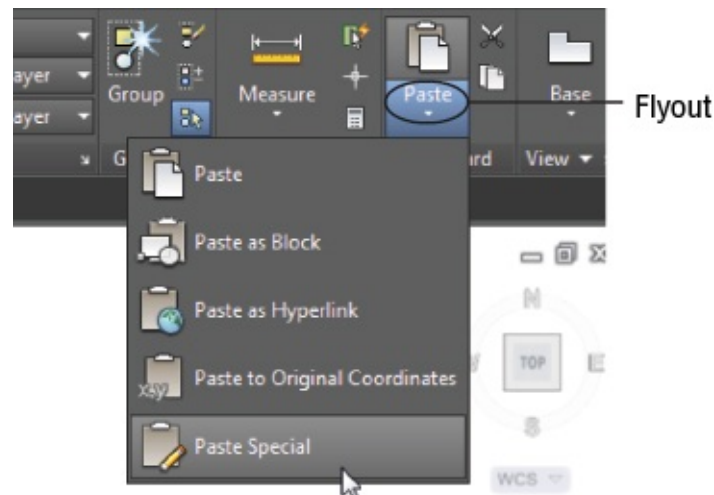

FIGURE 10.21 The Paste flyout
3. Choose Paste Special from the Paste flyout on the Home tab's Clipboard panel (see Figure 10.21) to open the Paste Special dialog box. If you don't see the Clipboard panel, enter **PASTESPEC** ↵.